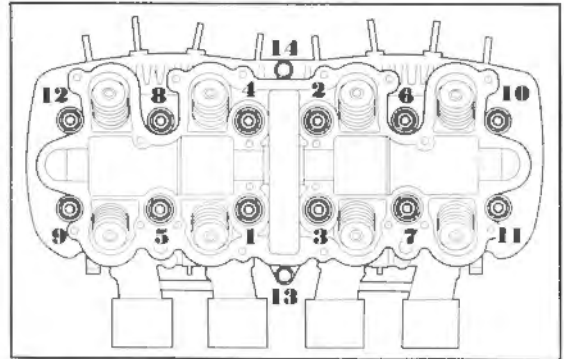

Fig. 83
11. Tighten the twelve 8 mm nuts uniformly with the special tool (Tool No. 07906-3230000) to a torque of $2.0 \sim 2.2 \text{ kg-m}$. ($14.46 \sim 16.63 \text{ ft-lbs}$) in the sequence shown in Fig. 83.